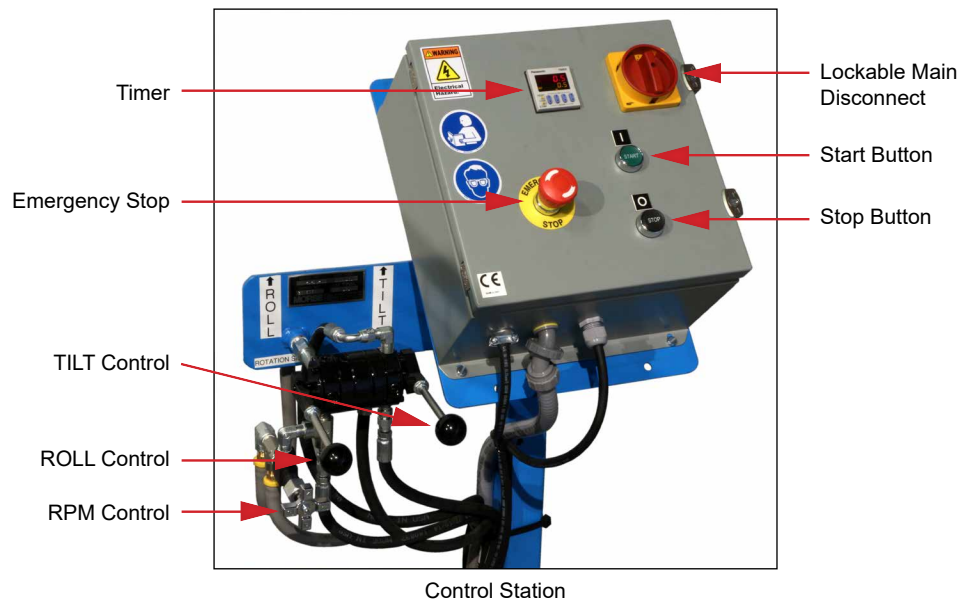

Figure 1
Carefully remove the top and sides of the crate covering the machine so as not to damage painted surfaces, electrical or hydraulic components. Inspect the machine for visible damage. If damage is noted, follow receiving procedure on page 1. Remove the (4) lag screws connecting the machine base to the pallet. Remove machine from pallet by lifting around the tilt bed assembly. Attach a strap to an overhead crane and raise slowly, as the machine will have a tendency to tilt (see figure 1).